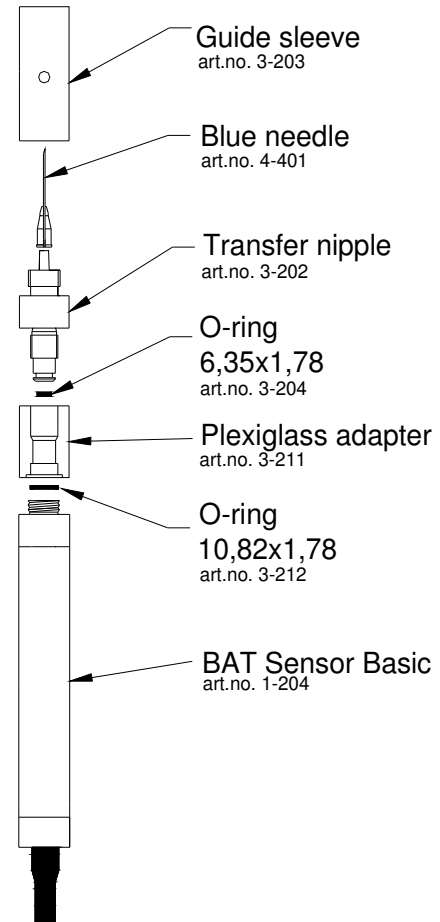

Figure 1a. The BAT-sensor Basic and its components.
The BAT/IS pressure sensor consists of the components shown in figure 1a. At delivery most components are already assembled.
- Prepare the BAT-sensor Basic according to figures 1a, 1b and 1c.